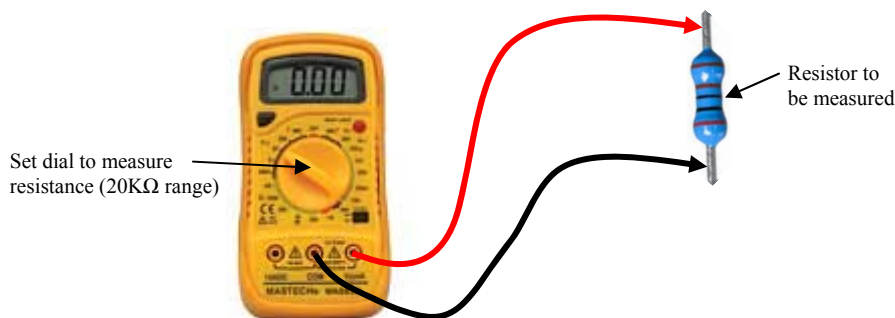

Fig. 2. Multimeter connected across a component, for measuring resistance.
- 3) Plug in your test leads, connect the probes *across* the component as shown in fig. 2. across the device you are measuring, and take a reading.
- 5) Confirm this value by measuring the resistance directly using the 20k Ω setting on your multimeter as in fig. 2.